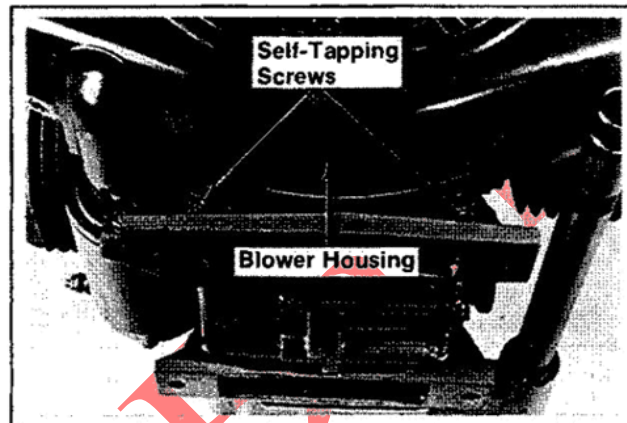

Figure 11-43. Installing Blower Housing.
3. Install the blower housing, and self-tapping screws shown in Figure 11-43.